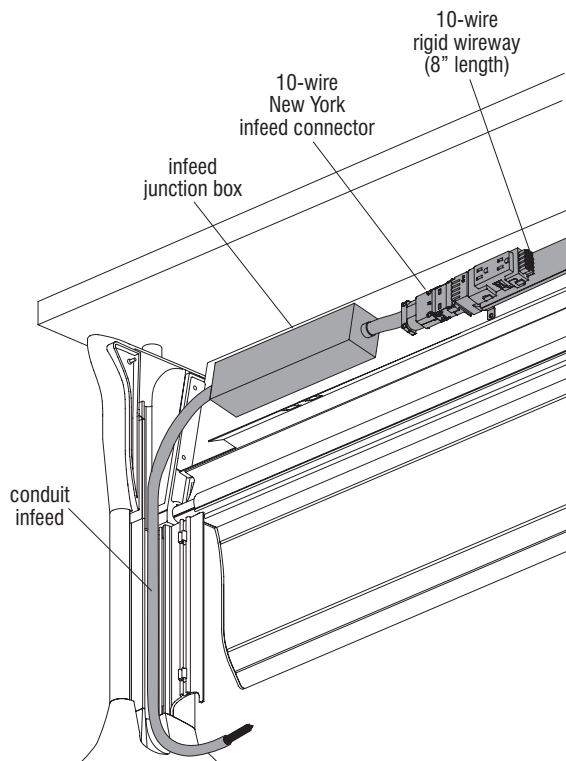

Figure 13
4. Two receptacles can be installed in the rigid wireway. Route the liquid-tight conduit through the wire trough assembly and down through the leg wireway (Figure 13). Have a qualified electrician make the final electrical connection to the building power source. Close the leg wireway door. Close the wire manager door.